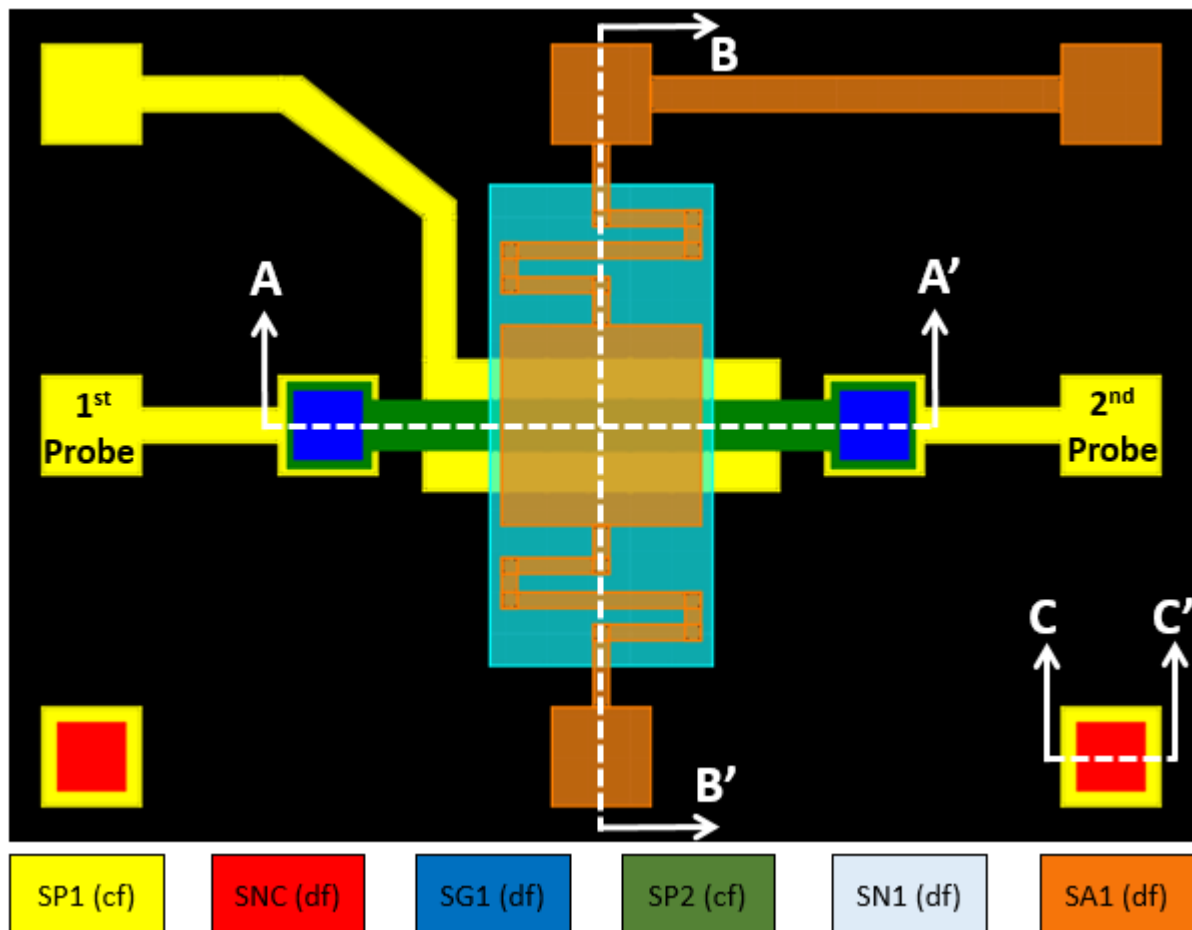

Fig. PS3.1
- (d) Assume the sheet resistance of the interconnect polysilicon (POLY1) is $20\Omega/\square$, and that of the polysilicon structural material (POLY2) is $5\Omega/\square$. Calculate the total resistance between centers of the bond pads (where a probe tip might be placed in contact) for the leads that attach to the ends of the beam, i.e. calculate the resistance between the 1st and 2nd probes in Fig. PS3.1.